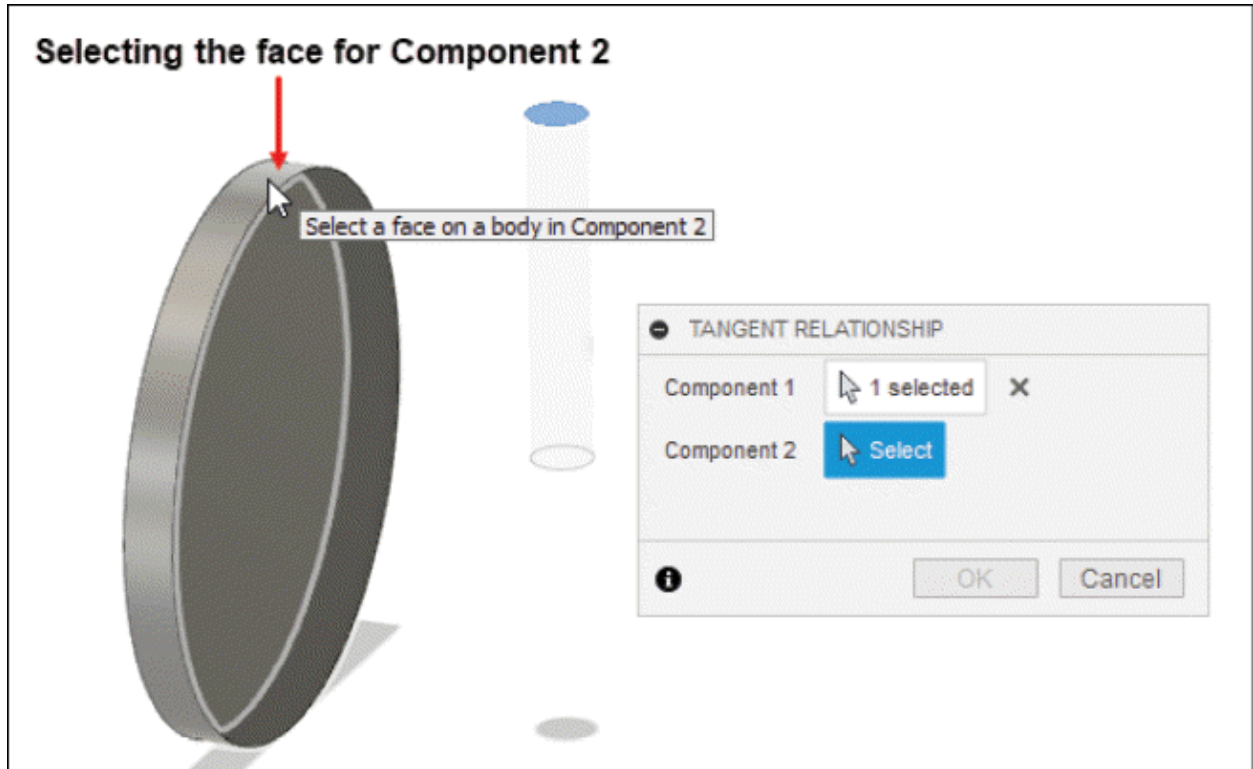

Figure-40. Selecting the face of second component
- After selecting face on a body in the first component, select the face on a body in the second component as shown in Figure-40.